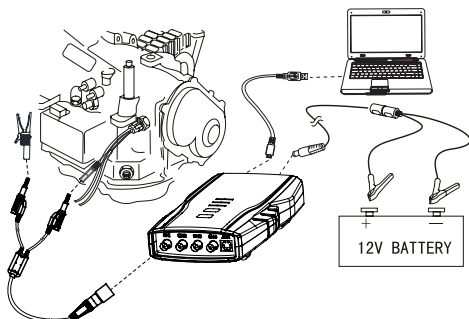

Fig. 28: Equipment connection
- Connect equipment according to Fig.28, start engine and apply driving gear.
1. Connect equipment according to Fig.28, switch on power supply.